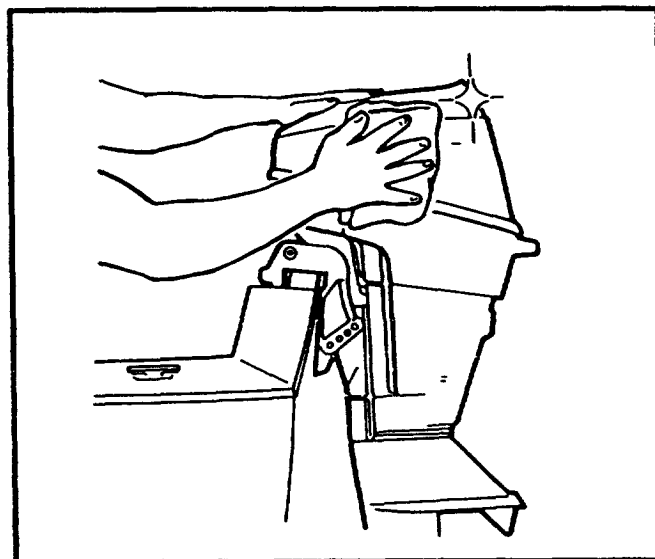

FIGURE 43
- Your outboard is protected with a durable enamel finish. To keep its appearance, wash and wax often using marine cleaners and waxes (Figure 43).